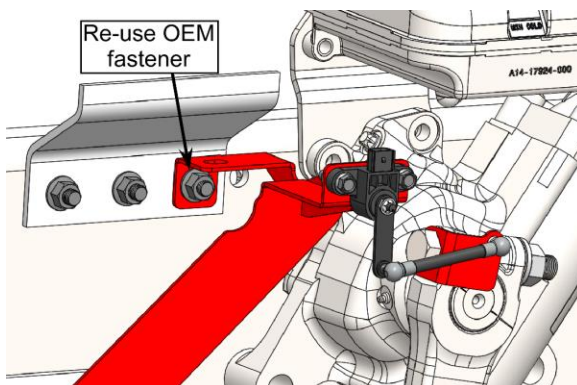

Figure 30. Steering Sensor Mount – MY2019+.
9. Remove one bolt attaching the fuel dryer mount to the frame, as shown in **Figure 30**. Retain bolt and nut for reuse.